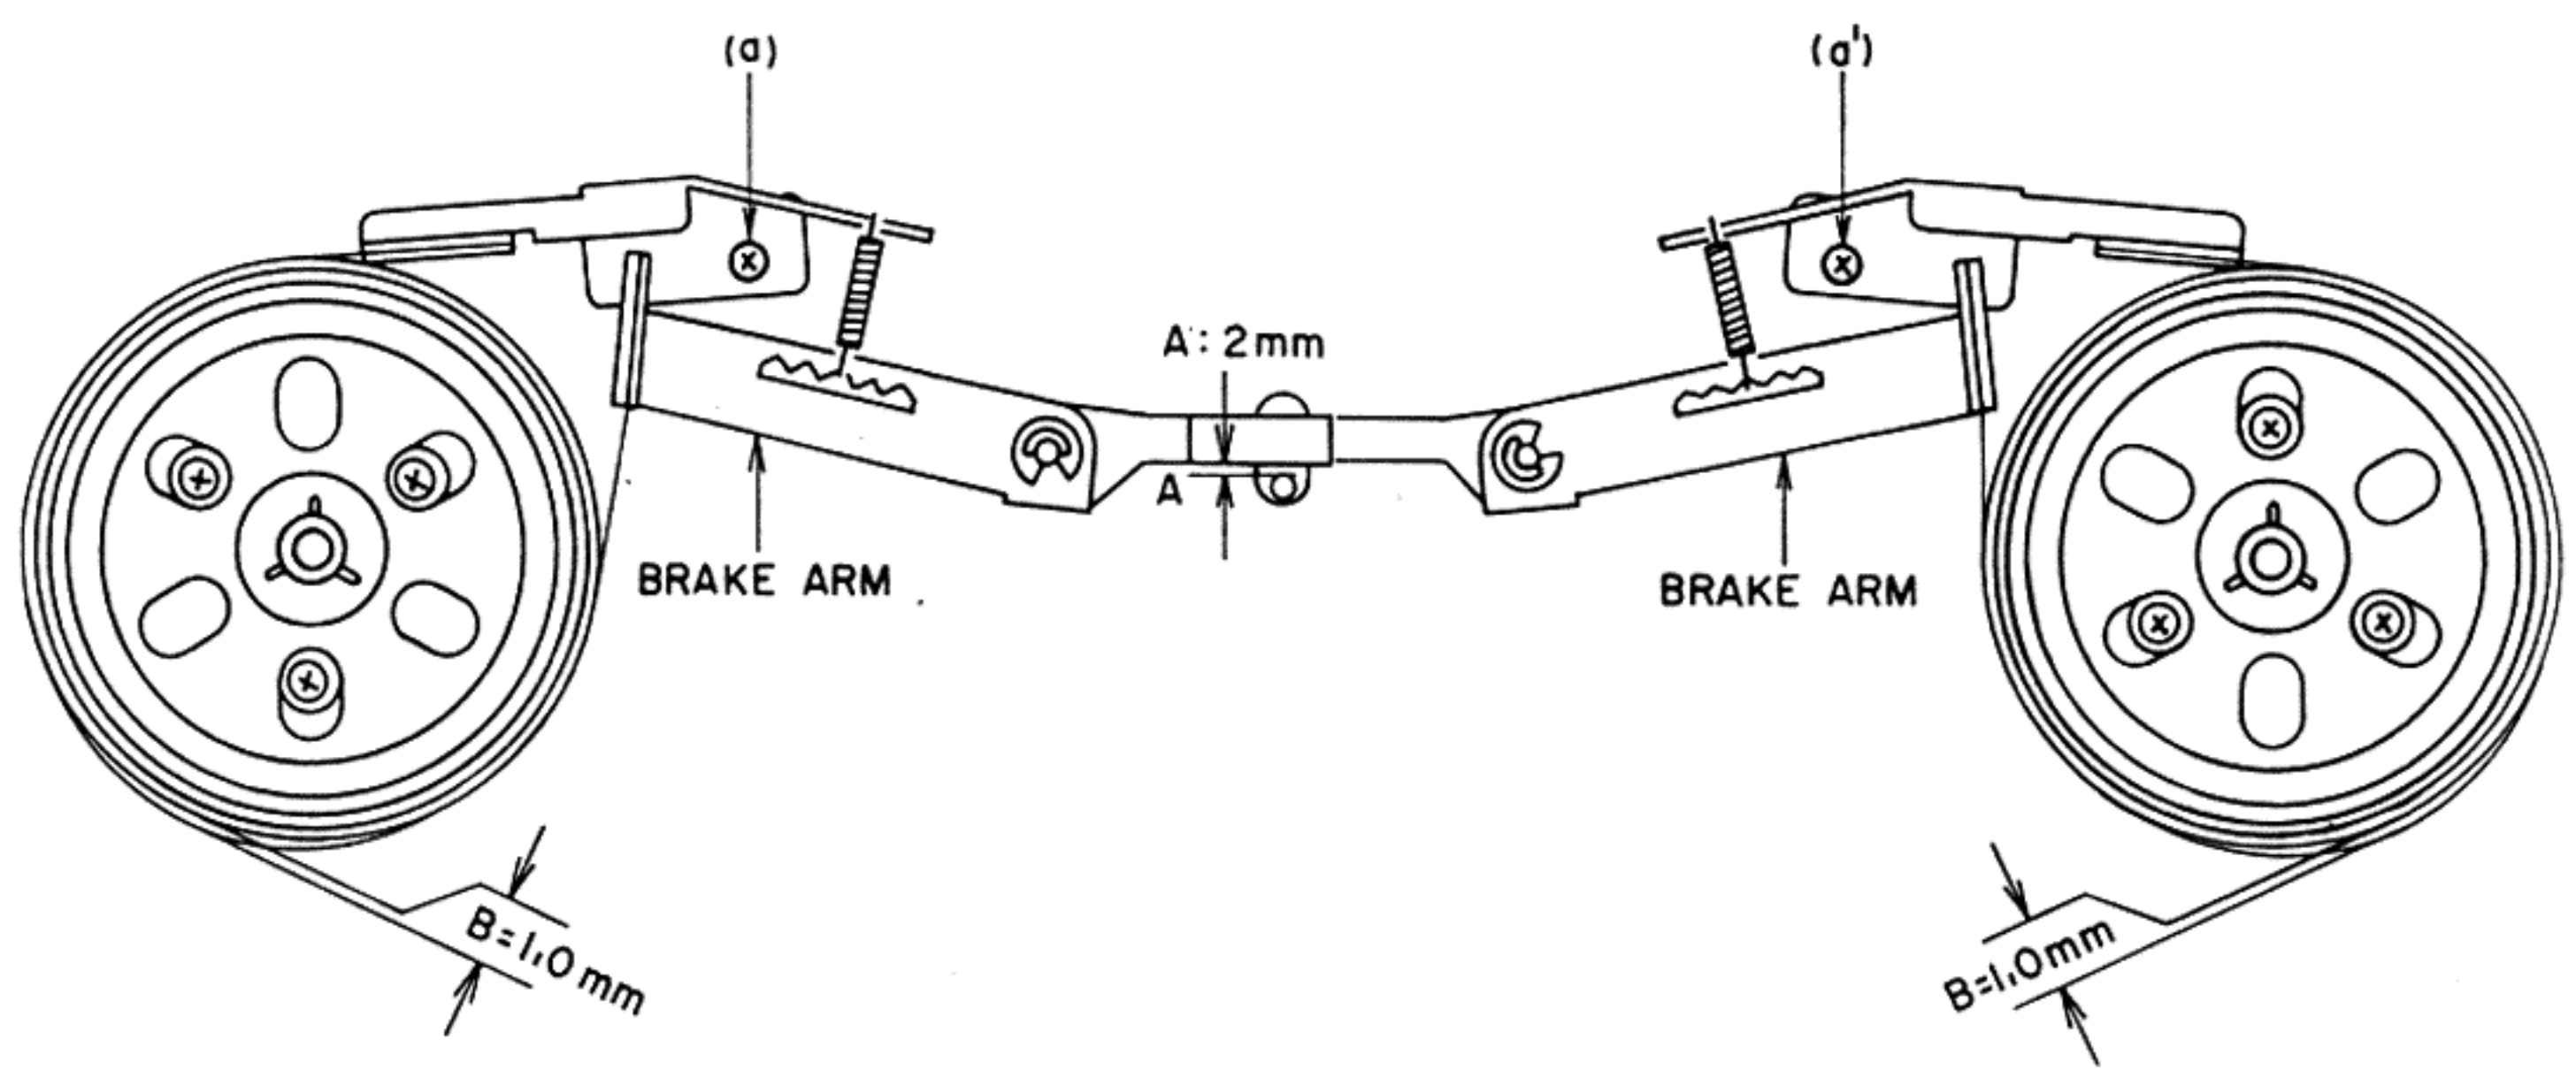

Fig. 30
1. BRAKE BAND POSITION ADJUSTMENT AND BRAKE TENSION ADJUSTMENT (Refer to Figs. 30, 31, 32)